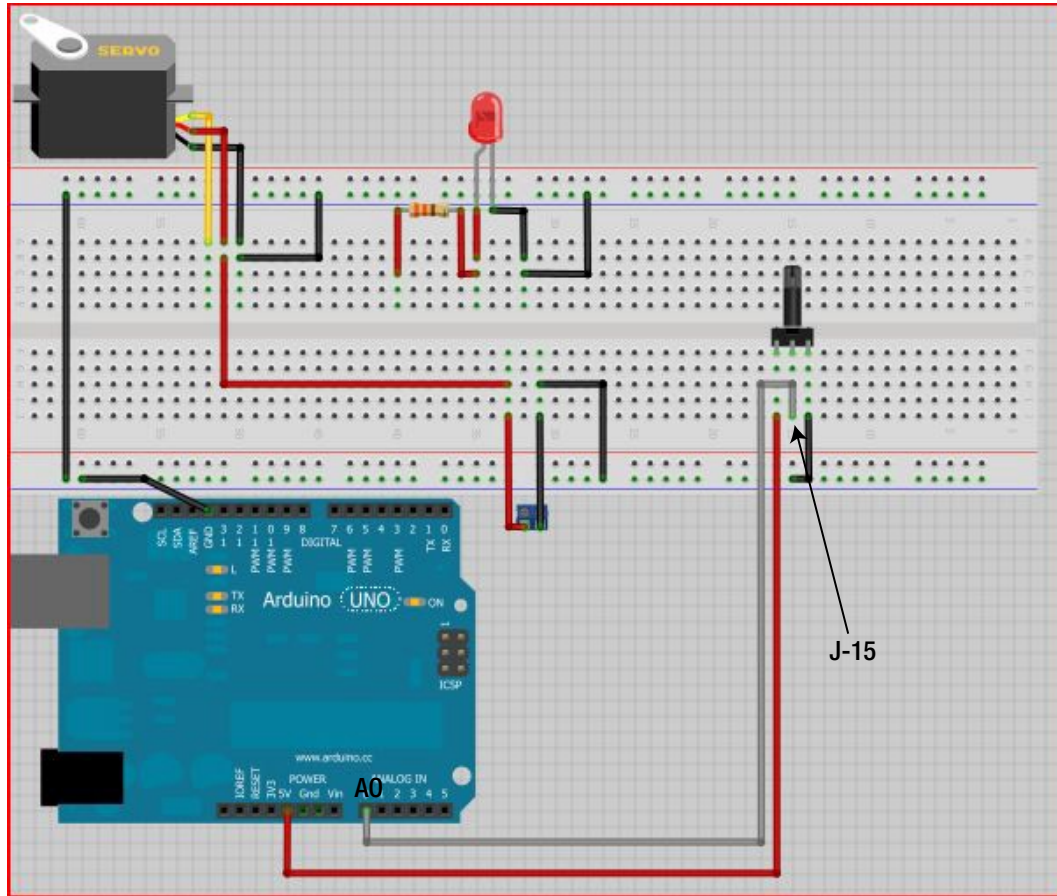

Figure 23-14. Attach analog pin 0 from the Arduino to the potentiometer
13. Connect analog pin 0 (A0) on the Arduino to the wiper, the middle pin of the potentiometer, at J-15. We used a green wire here, but any color will work. Figure 23-14 illustrates this process.